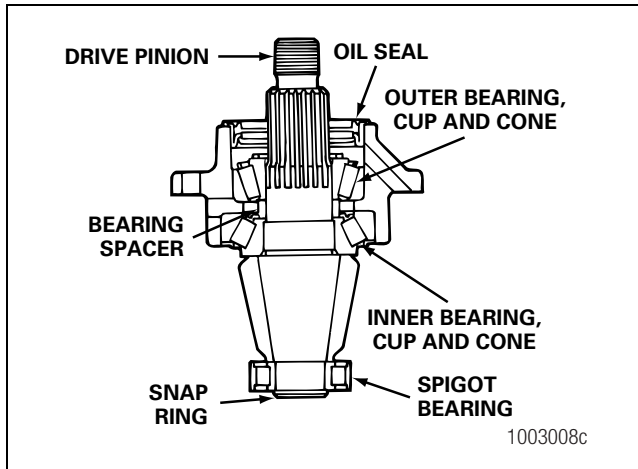
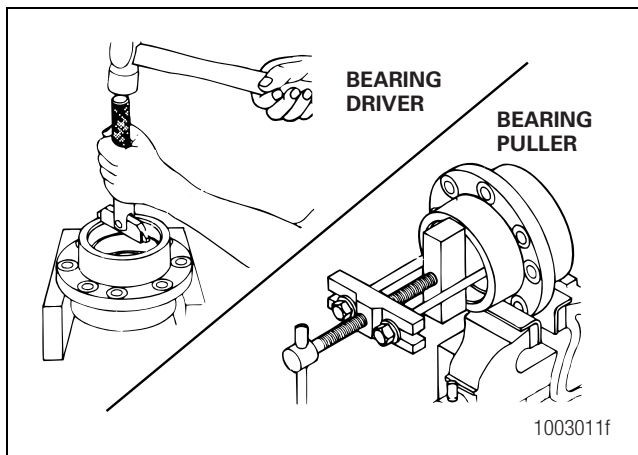

Figure 3.28
Figure 3.29
5. If the pinion bearings need to be replaced, remove the inner and outer bearing cups from the inside of the cage. Figure 3.28. Use a press and sleeve, bearing puller or a small drift hammer. The type of tool used depends on the design of the bearing cage. Figure 3.29.